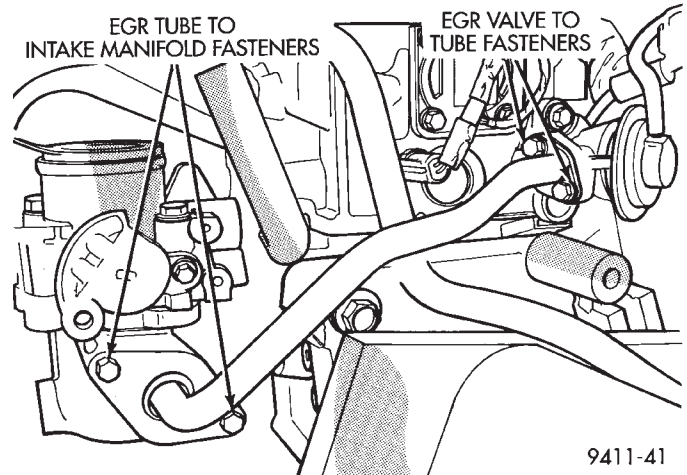

Fig. 15 Tube Assembly—Typical
(11) Remove EGR tube bolts at the valve and at the intake manifold (Fig. 15). Remove tube from engine.
(12) Remove the intake manifold support bracket.
(13) Remove intake manifold fasteners and washer assemblies. Remove intake manifold.